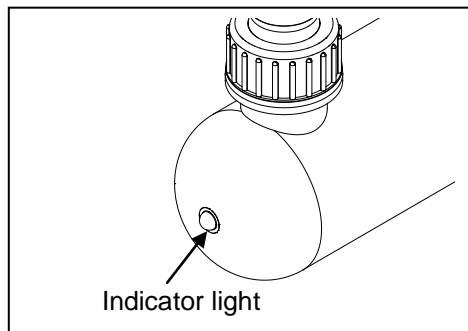

Fig. 12
6. Wait several seconds for the light to turn on then check the indicator light to verify if the light is functioning correctly. Fig. 12